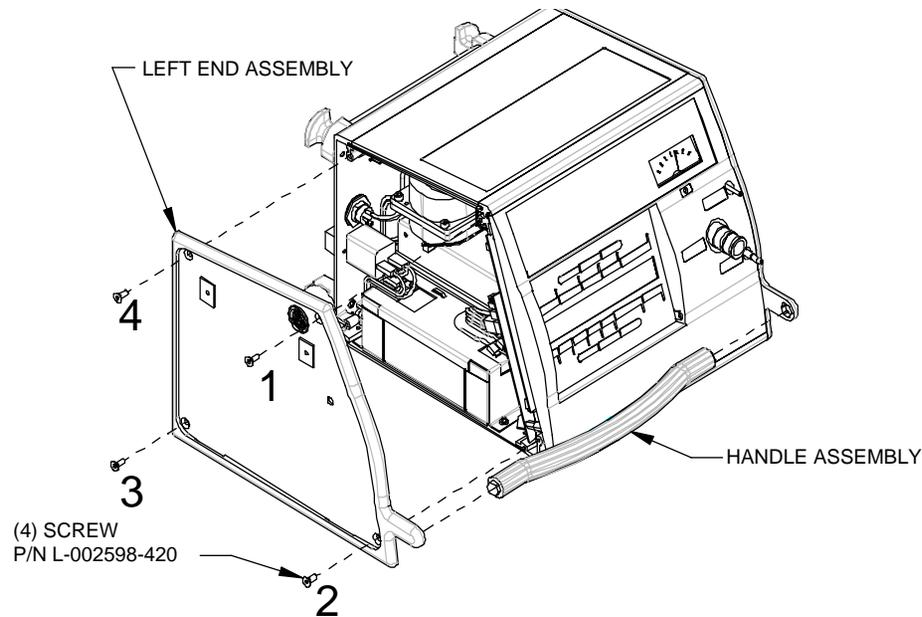

FIGURE 7-3.
4. Set the left end plate into position. Use an 1/8-in hex driver to attach the left end plate by starting 4 screws, 10-32 x 1/2-in (P/N L-002598-420), in the order shown in Figure 7-3.
5. Use an 1/8-in hex bit and a Makita torque driver set at “5” with the speed range set at “L” (or equivalent) to secure the left end plate by tightening the 4 screws in the same order. See Figure 7-3.